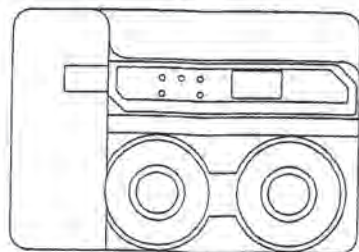
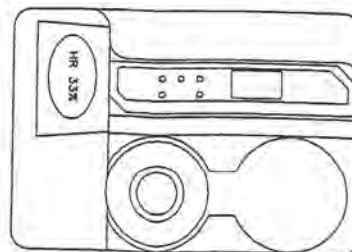

FIG 1
FIG 2
※ The carrying case is for not only storage (see FIG1) but also calibration (see FIG2)
5.1.1 Turn on the meter. Plug unit in 33% salt reference bottle and put unit into the carrying case as shown FIG2. Check the reading on LCD after 40 minutes. If the display reads between 31.5% and 34.5%, that means the meter is accurate. Otherwise, it needs to be recalibrated. Please calibrate the meter by following calibration instruction 5.3.A.